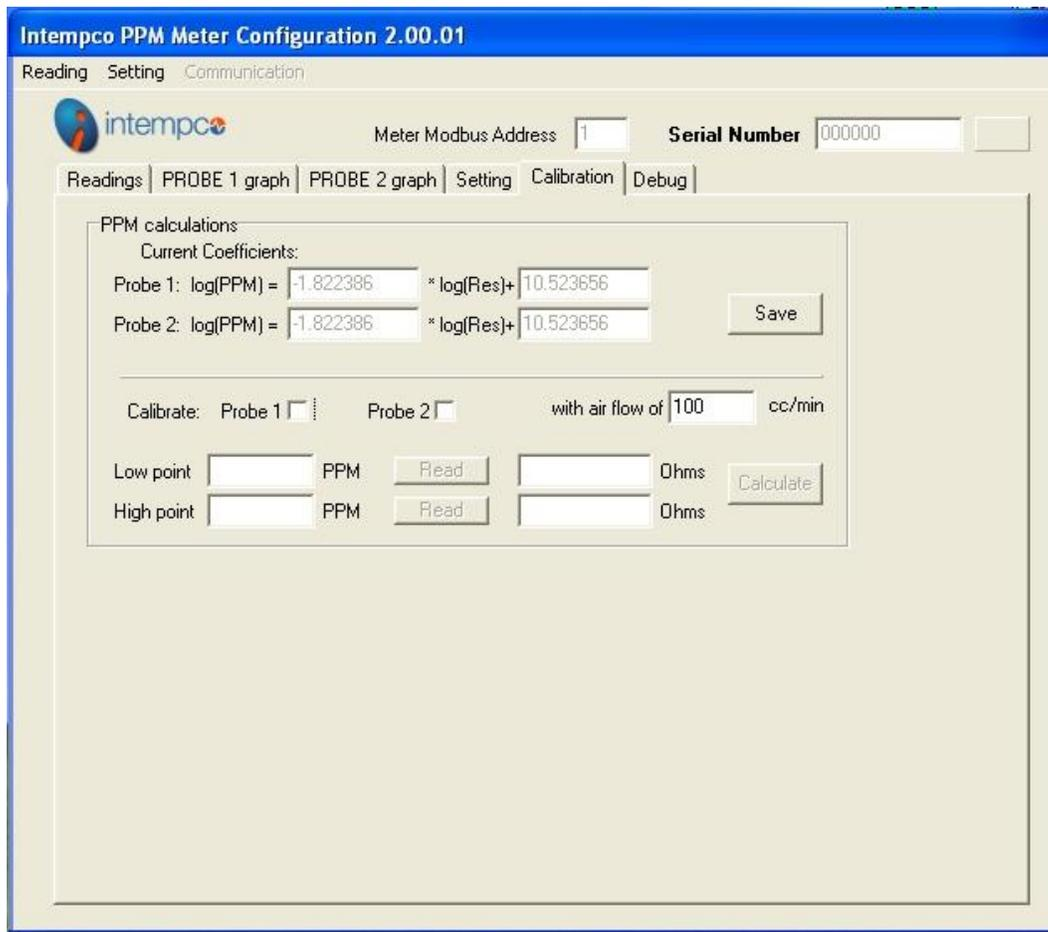

Fig. 21
Select the "Calibration" tab. The current PPM calculation coefficients for both probes are displayed on the top of the screen (figure 21
- Select ‘Probe 1’ (see figure 21),
Click on “PPM Meter Setting” button (figure 8). Access to the configuration and calibration functions is password protected. The user will be asked to enter the factory password (figure 21).